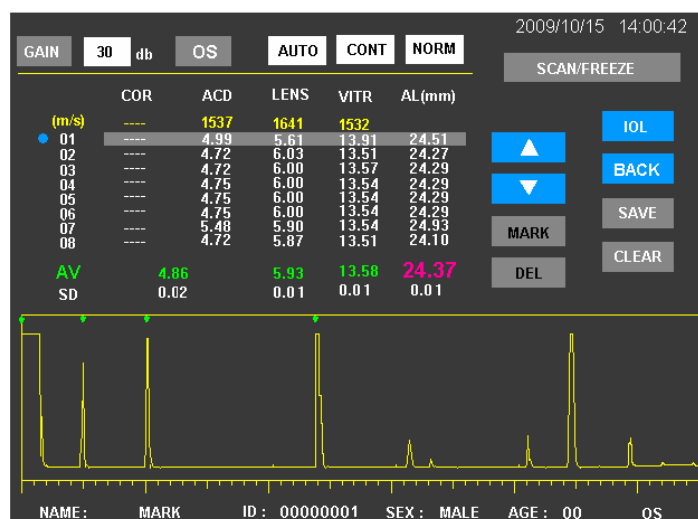

Figure 4.26 Measuring Data Display Interface
The MD-1000A/P has the function of saving and displaying the measuring data. The saved measuring interface and data at the time of measuring can be loaded according to the operator's selection, which is convenient for observation and analysis. See Figure 4.26.
- 3) Under the Measuring Data Display Interface of ASCAN (see Figure 4.26), the data group can be selected and the measuring waveform be displayed by controlling the up and down keys. The Measuring Data Display Interface displays the measuring result saved initially but can not make amendment for the saved data and waveforms, and without measuring functions. The threshold value can be observed but not be amended. Under the Measuring Data Display Interface, it is able to enter the IOL Interface by clicking **IOL** to check the saved data or input